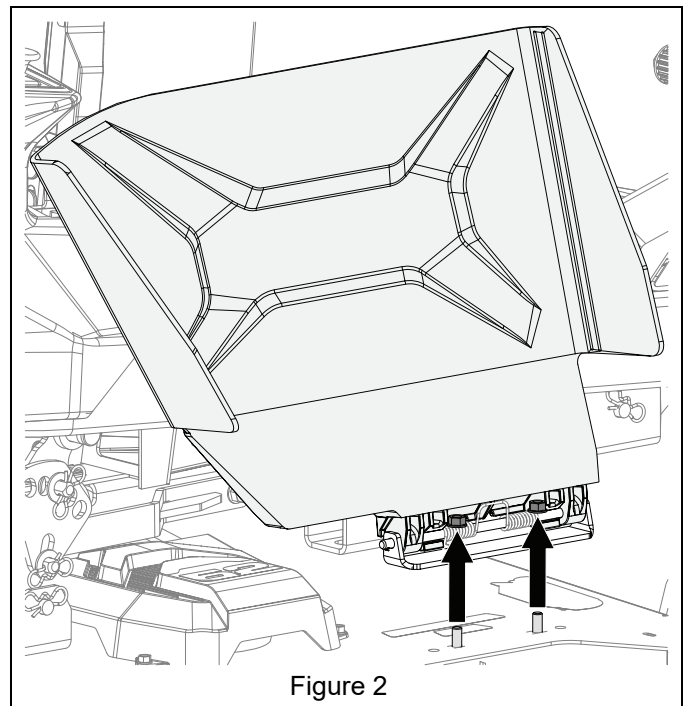

Figure 2
4. Remove two flange nuts retaining discharge chute assembly and remove chute assembly. Retain parts for operation without mulch kit. See Figure 2.